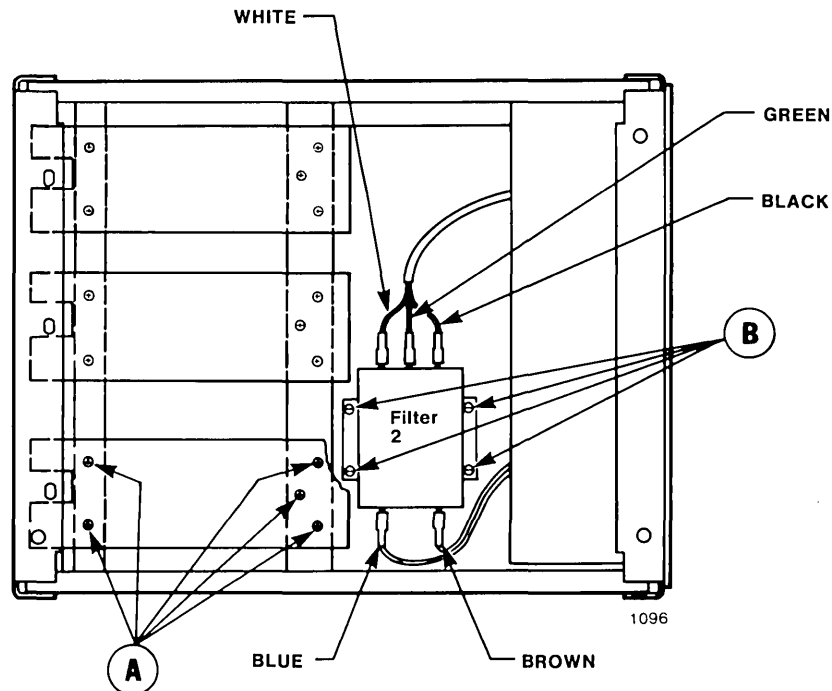

Figure 4-15. Filter 2 Terminal Locations
8. Remove the five screws securing the drive-base slide (for the Winchester drive) to the chassis (labelled A in Figure 4-15) and remove the drive-base slide.
9. Disconnect and label the three wires leading from filter 2 to the power supply (refer to Figure 4-15).
11. Remove the four nuts (labeled B in Figure 4-15) securing filter 2 to the chassis and remove filter 2.